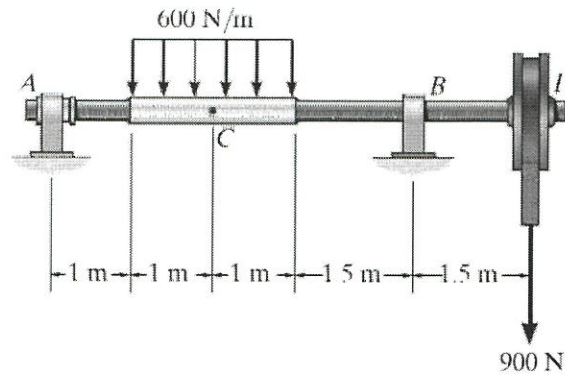

Figure Q1(a)
- (b) Figure Q1(b) indicates part of a control linkage for an airplane that consists of a rigid member CBD and a flexible cable AB. If a force is applied to the end D of the member and causes it to rotate by $\theta = 0.3^\circ$, determine the normal strain in the cable. Assume that the cable is unstretched in its original state.